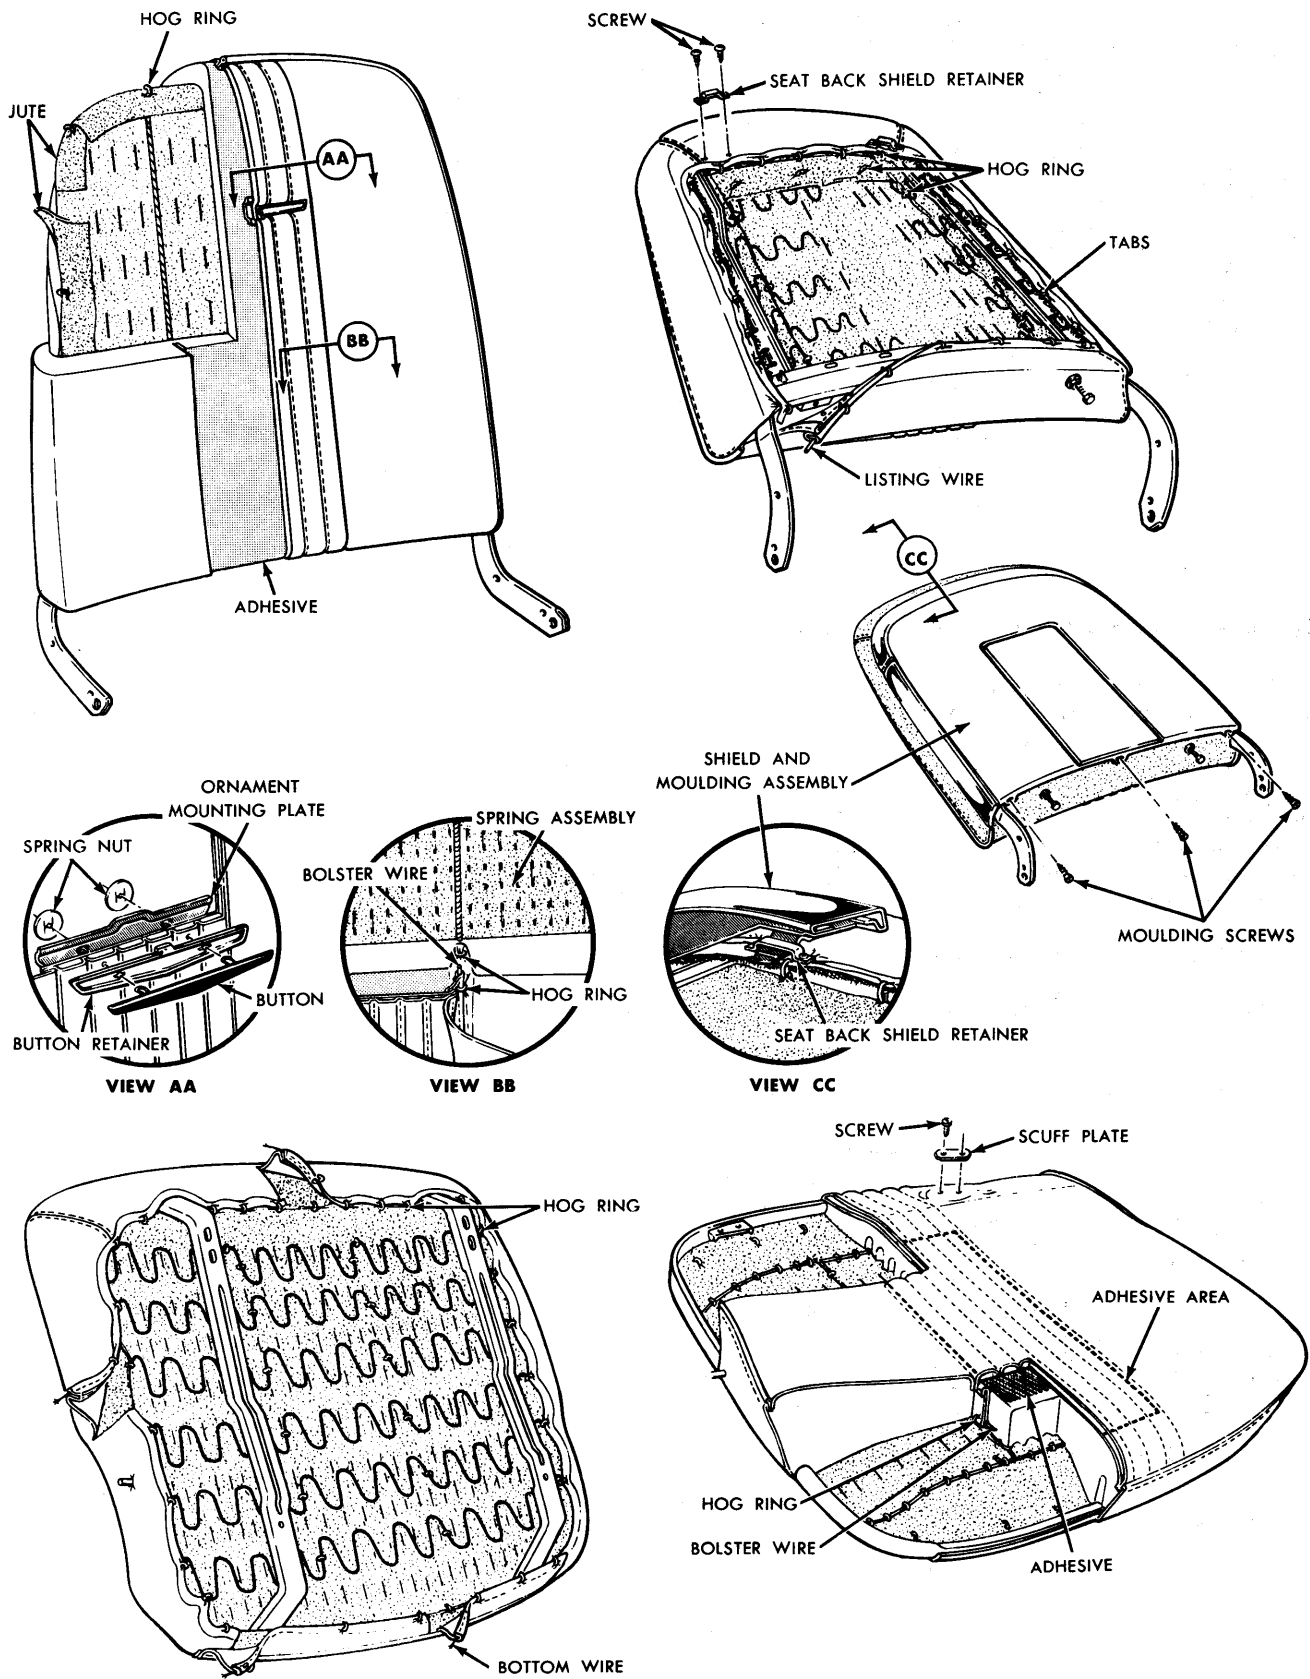

FIG. 6 - Front Seat Back and Cushion Trim Assembly
plates and remove the hog rings retaining the seat cushion cover to the spring assembly (Fig. 6). Separate the bottom facing from the cushion cover top rear panel, and allow the facing to remain cemented to the foam rubber pad. Remove the cushion cover.
7. The front and side edges of the cover assembly can now be secured to the bottom of the spring assembly with hog rings as shown in Fig. 6.
3. Place the new cover over the pad and spring assembly, and with hog rings, secure the cover to the bolster wire (Figs. 6 and 8).
5. Pull the lower rear edge of the cover over the bottom of the spring assembly, and secure each side with hog rings (Figs. 6 and 8).